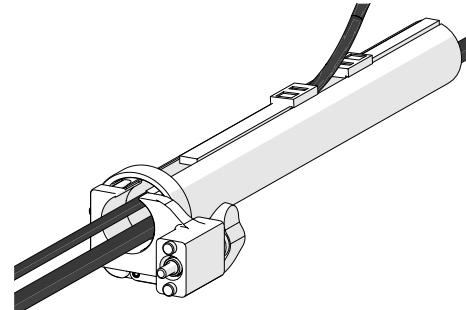

*Fig. 244 - Zip to close*
2. Follow the cable placement zipping the tube closed (Fig. 244).